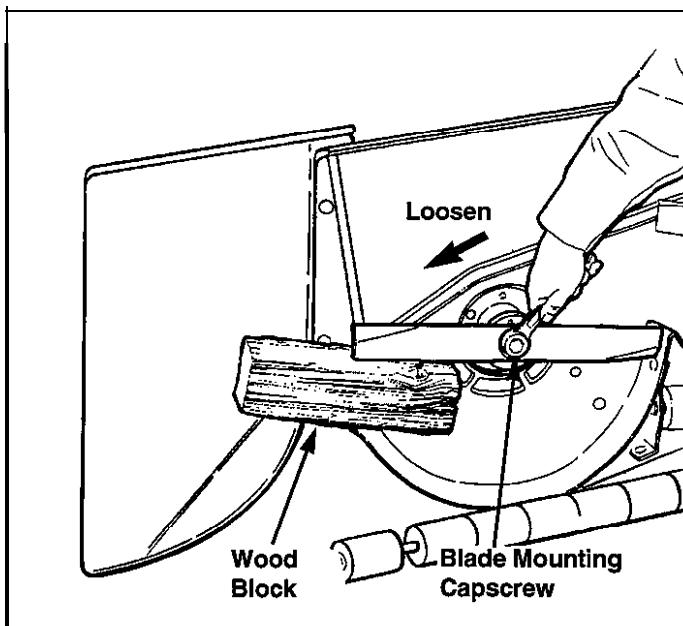

Figure 14. Removing the Blade
3. To remove blade for sharpening, use wooden block to hold blade while removing the blade mounting capscrew (figure 14).